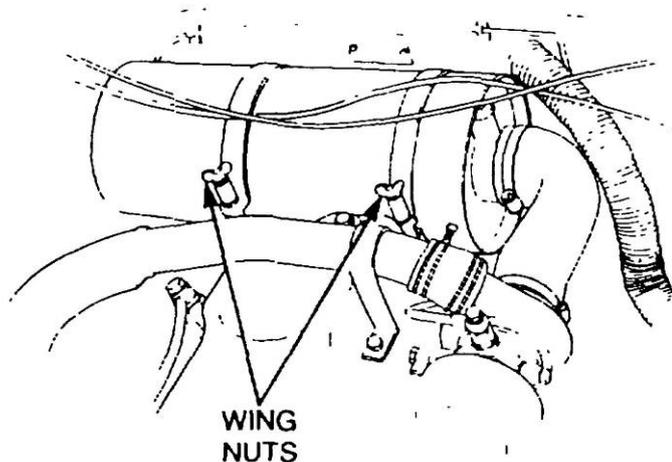

Figure 4 Removal of the Air Cleaner
- k.** Remove the hose clamps securing the air inlet and outlet hoses to the air cleaner housing and disconnect the hoses. Remove the two wing-nuts from the clamp bolts (Figure 4) and carefully lift the air cleaner out of the mounting brackets. Disconnect the engine air intake hose at the manifold and remove the air intake hose assembly.